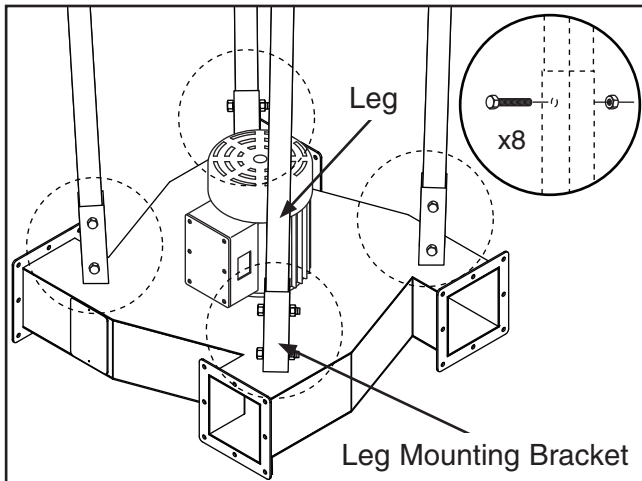

Figure 9. Attaching legs to impeller housing (Model G0673 shown).
2. Insert the legs into the leg mounting brackets and secure them with the eight $\frac{5}{16}$ "-18 x $2\frac{1}{2}$ " hex bolts and $\frac{5}{16}$ "-18 hex nuts, as shown in **Figure 9**. Do not yet fully tighten the nuts.